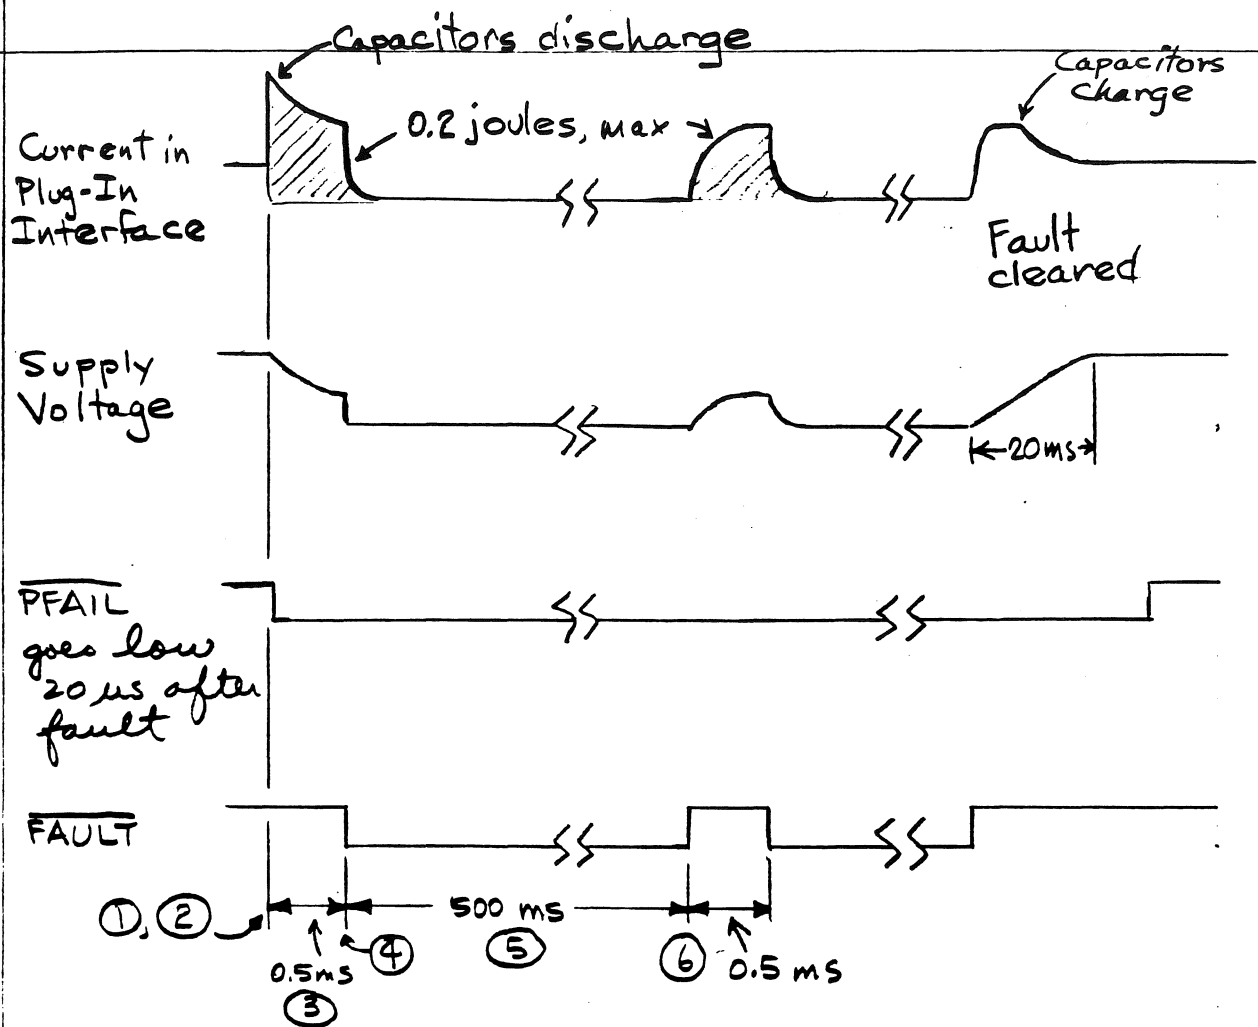

Figure PS-1 Fault definition.
1. Somewhat dependent on main frame. Fault current specified with main frame drawing nominal current. See Figure PS-1, Fault Definition.